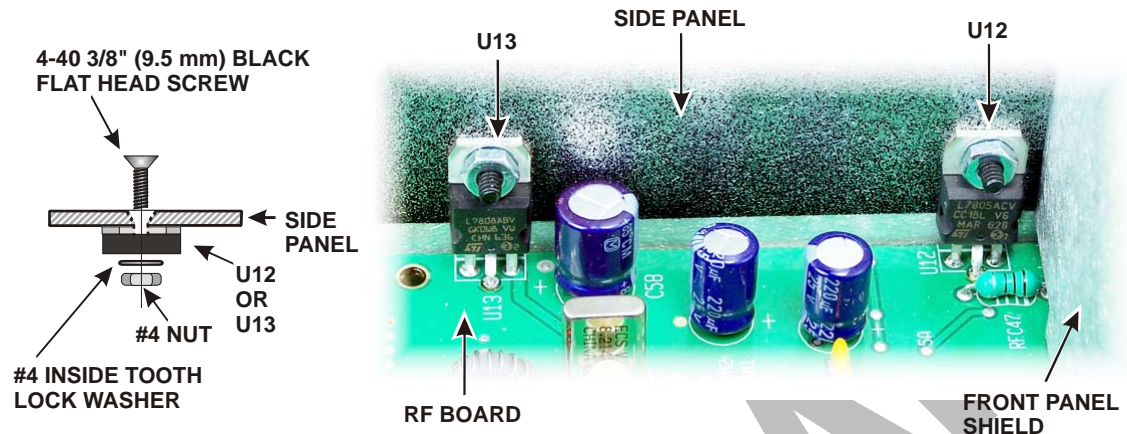

Figure 20. Attaching U12 and U13 to the Right Side Panel.
□ Attach voltage regulators U13 and U12 to the right side panel (the panel with feet attached) as shown in Figure 20 using a 4-40 3/8" (9.5 mm) black flat head screw, #4 inside tooth lock washer and a #4 nut for each regulator as shown. When the screws are tightened, the metal heat sink tabs on U12 and U13 should lie flat against the side panel.